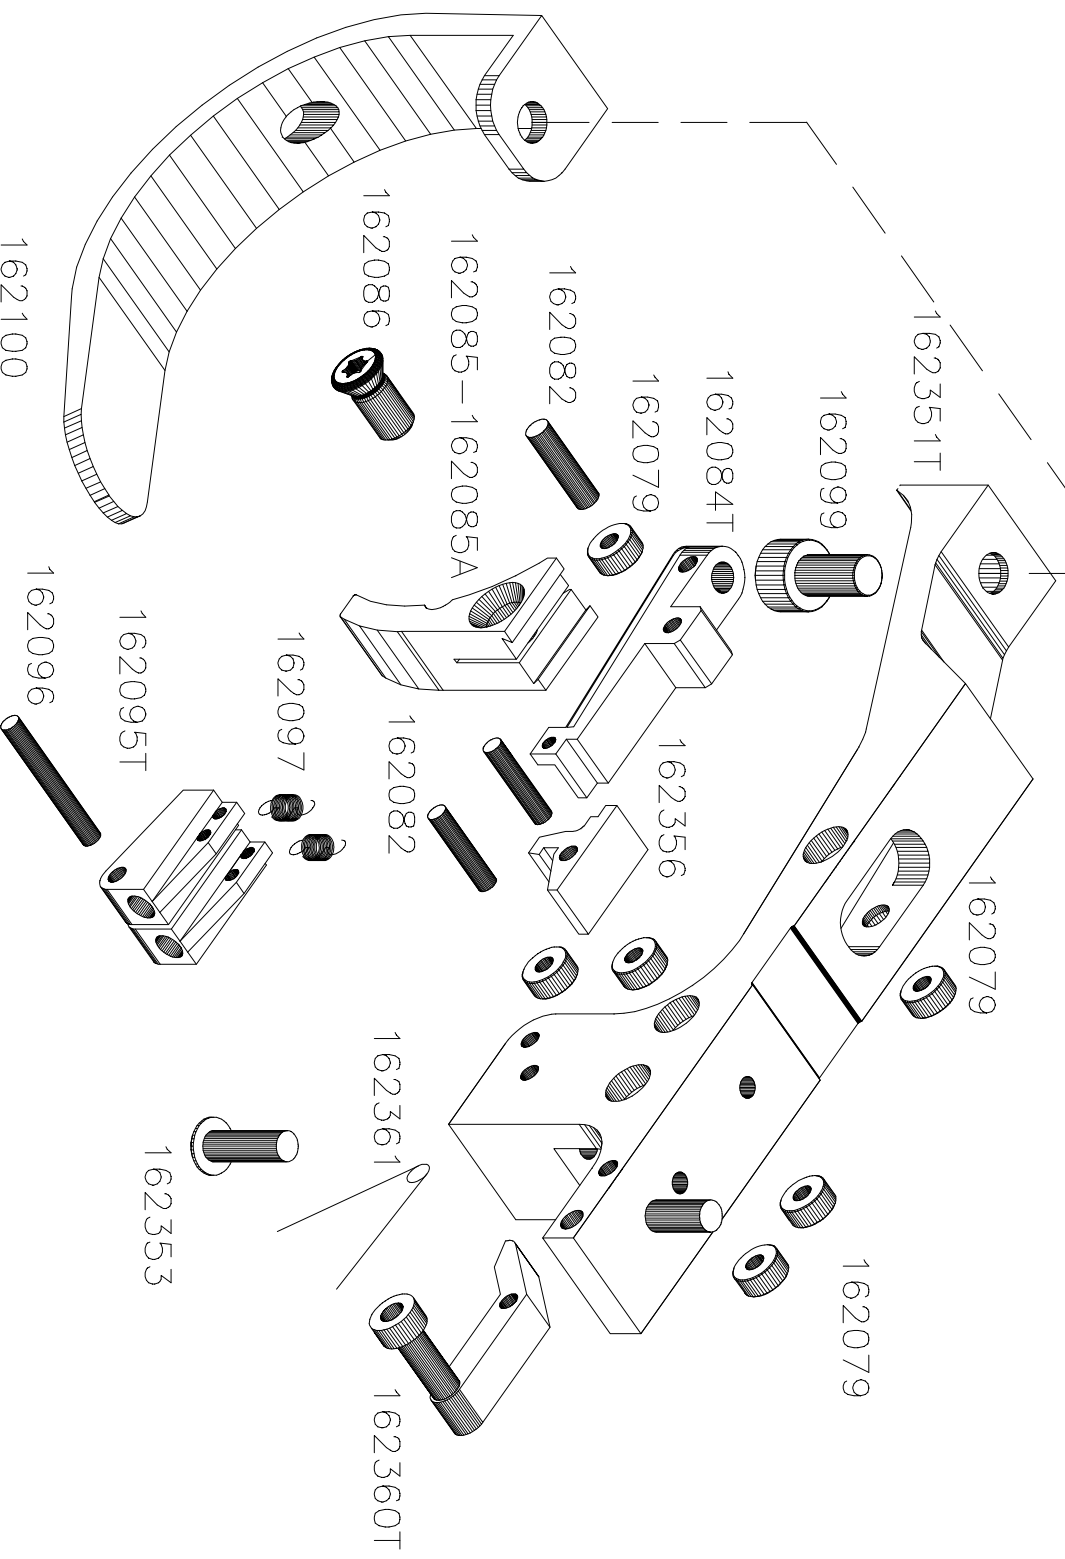

Fig. 1
9. Adjusting of Grip Angle (*Fig. 1*)